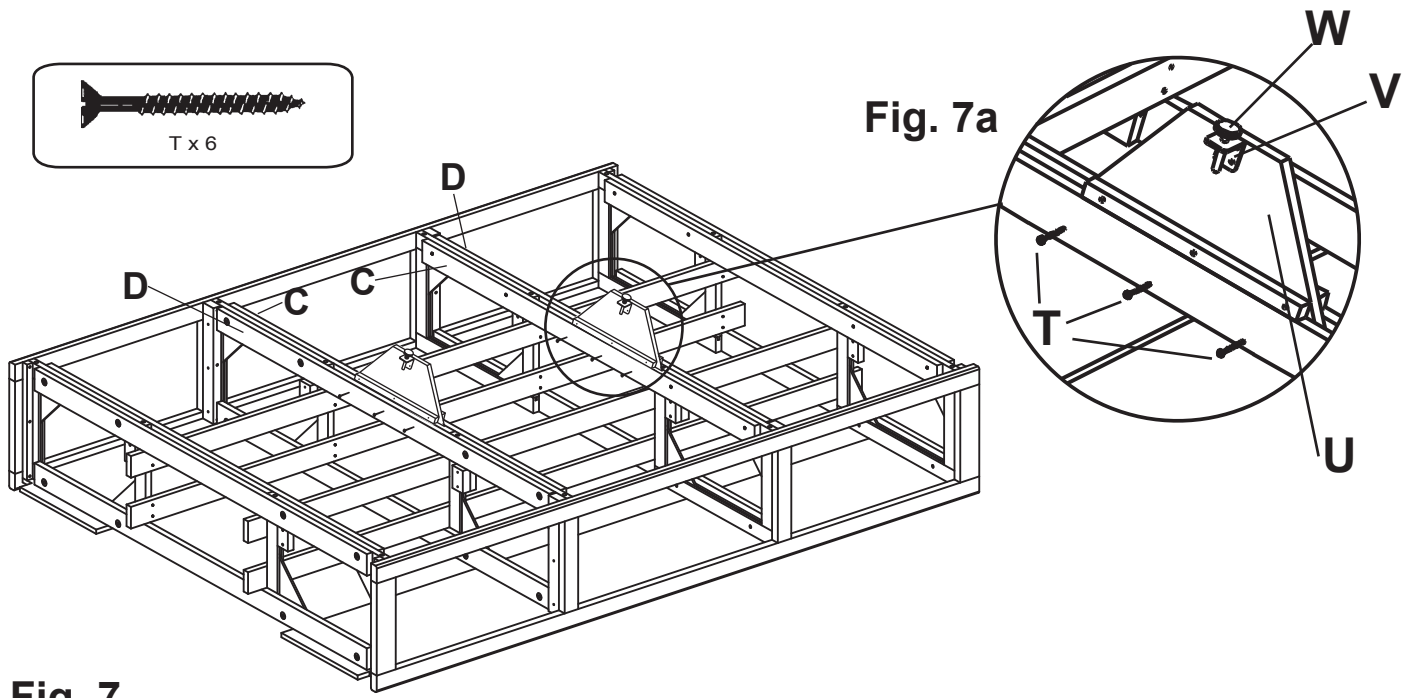

**Fig. 6**
6. Place the remaining Trestles (C and D) on the Pedestal Assembly. Face the Trestles with T-Nuts (D) toward the ends of the Assembly from the center as shown in Figure 6. Insert 2½" Hex Bolt (G) and Washer (H). See Figure 6a. **DO NOT TIGHTEN BOLTS UNTIL FINAL ASSEMBLY IN STEP 10.**